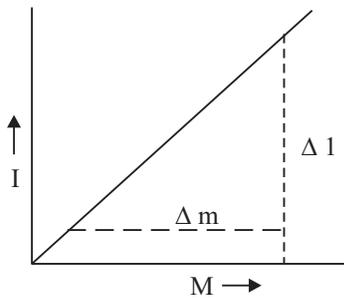

Fig. 8.2: Graph between  $M$  and  $I$
- (iv) Plot a graph between extension  $l$  (on y-axis) and load  $M$  (on x-axis) (Fig 8.2). Draw the best straight line through the points plotted and the origin, which is also an observation - zero extension for zero load.